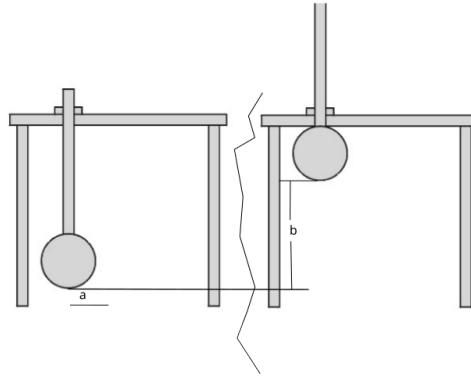

Figure 10.1: Programming - Vertical Travel
**Programming the Saw - Vertical Travel Details** Figure 10.1 is a simplistic diagram to show the relative dimensions that comprise the vertical axis travel limits. The Vertical Axis, Long Axis, and Cross Travel Axis, limits are combined to derive the working envelope of the saw. In Figure 10.1, the vertical travel is shown as the dimension *b*. While dimension *a* is